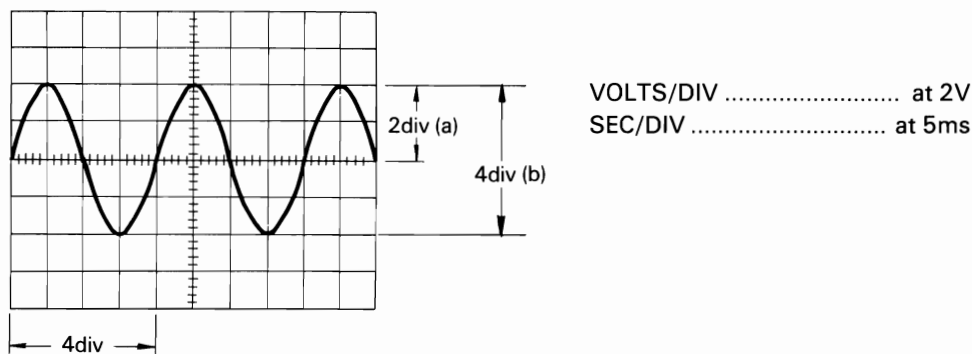

Fig. 2 Voltage and frequency measurement
Initially, set the Variable knobs (inner) of VOLTS/DIV and SEC/DIV switches ③ and ⑳ to the CAL positions. An example is shown in Fig. 2.
From Fig. 2:
For the waveform in Fig. 2, frequency = $\frac{1}{5ms \times 4\ (div)} = \frac{1}{20ms}$